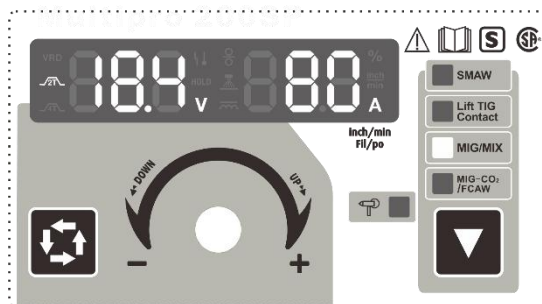

Fig.7 The Status of Perform Welding
⑤ The panel will display these data the next time the machine restarts if the parameters are unchanged.
⑥ The panel displays as Fig.7 when welding, the welding voltage is 18.4V, and the current is 80A.